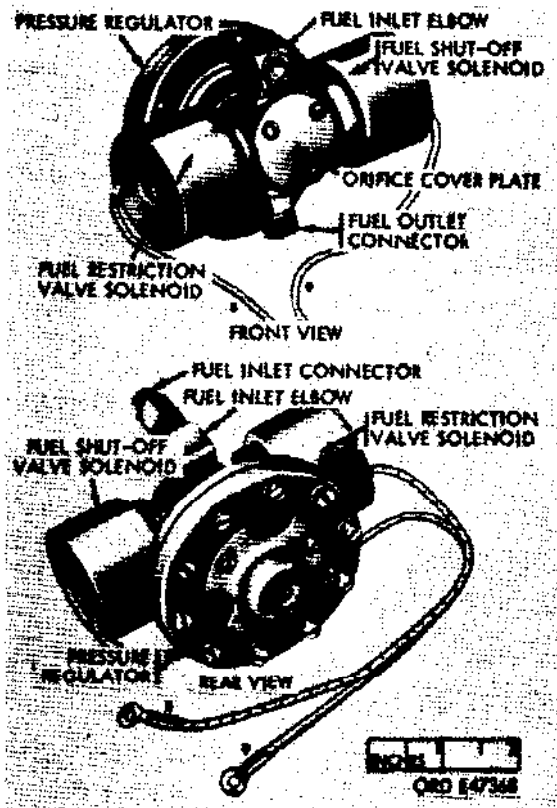

Figure 579. Fuel control valve
- (8) Fuel control valve (fig. 579). The fuel control valve consists of a valve body, pressure regulator, two solenoid-operated valves and an orifice or metering plate. purpose is to control and meter the quantity of fuel flowing into the heat exchanger. (Refer to TM 9-8662.)